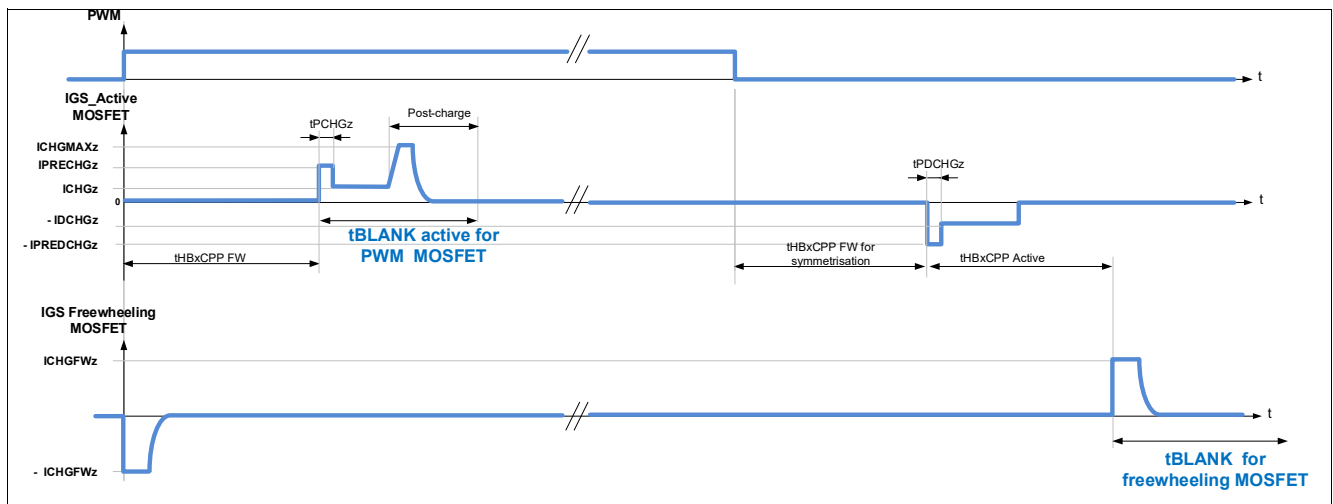
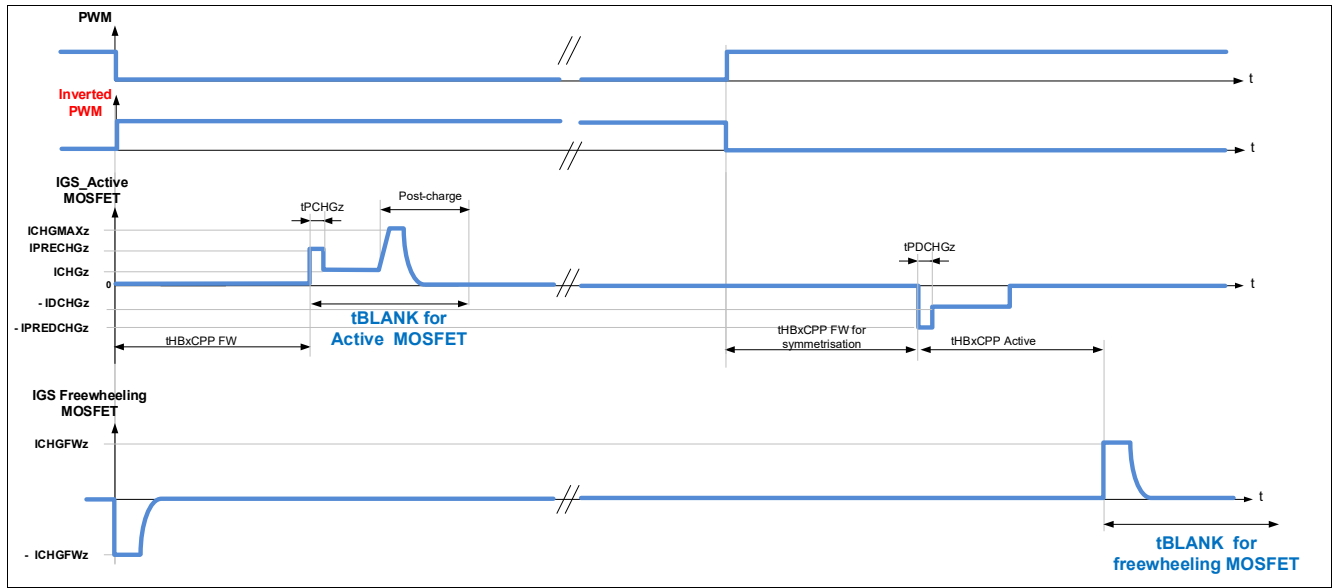

Figure 34 Blank time for half-bridges in PWM operation, detection of generator mode enabled (EN_GEN_CHECK = 1), motor operating as load
Figure 35 Blank time for half-bridges in PWM operation, detection of generator mode enabled (EN_GEN_CHECK = 1), motor operating as generator
- The blank time of the Active MOSFET starts at the expiration of the cross-current protection time of the FW MOSFET (tHBxCPP FW). Refer to **Figure 34** and **Figure 35**.
- The blank time of the FW MOSFET starts after expiration of the cross-current protection time at turn-off of the Active MOSFET (tHBxCPP Active). Refer to **Figure 34** and **Figure 35**.